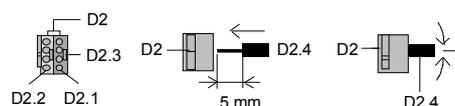

Figure 6: Connecting the bus cable
- D3 Bus terminal for connecting the bus cable (see fig.6)
- E3 Bus terminal for connecting the bus cable (see fig.6)
Connecting and disconnecting the bus cable (figure 6)Connecting the bus cable: